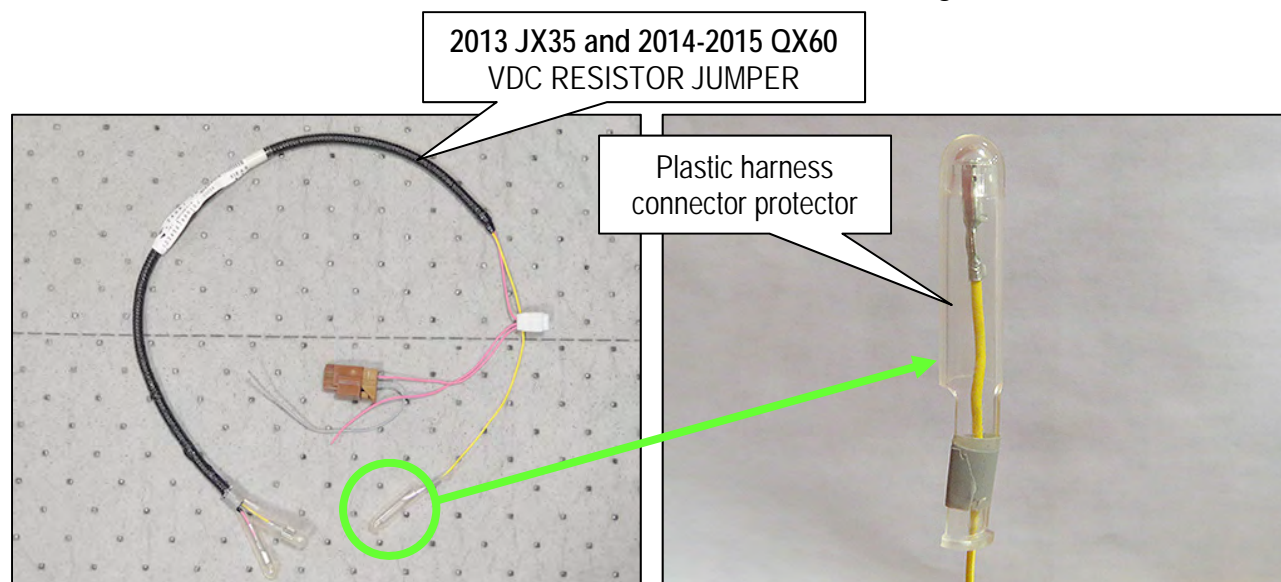

Figure 45
49. Remove the plastic harness connector protector from the end of the yellow jumper harness shown in Figure 45.